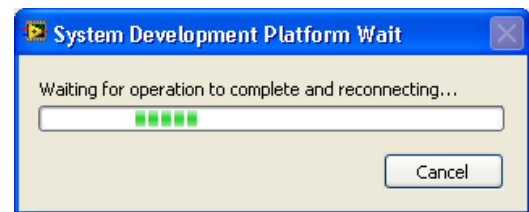

Figure 20. Software Connects to SDP Board
3. After finding the evaluation board, the software connects to the EVAL-ADAQ7980SDZ and displays the pop-up window shown in Figure 20.